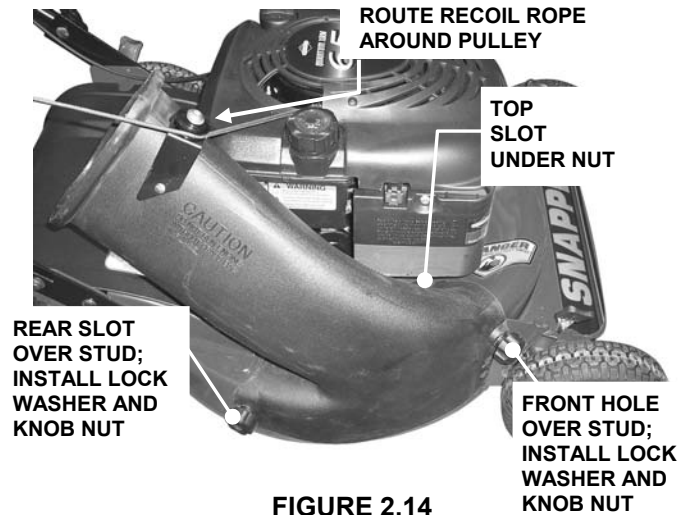

FIGURE 2.14
STEP 2: Install grass bag adapter to the deck in place of recycling cover, making sure that: 1) front hole on outside front of adapter fits over stud where front of recycling cover was originally secured, 2) slot on top of adapter slips under restraining nut on top of deck (under right front corner of engine), and 3) slot on bottom rear of adapter slips onto stud behind rear of discharge opening, where rear of recycling cover was originally secured. Install internal/external tooth lock washers and knob nuts onto studs and tighten securely. See Figure 2.14.
STEP 3: Route recoil rope around outside of rope guide pulley. See Figure 2.14. (NOTE: Recoil rope may need to be slackened. Refer to "Handle Assembly".)